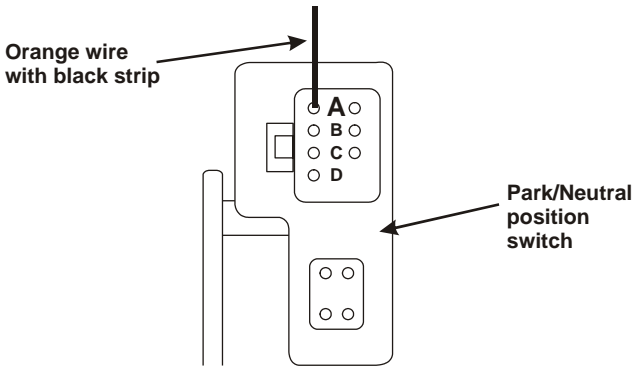

Figure 5
- Solder and seal the long blue wire with no connector from the throttle control to the orange with black stripe wire at pin “A” of the top seven-pin connector on the transmission Park/Neutral position switch (Figure 5). Pull the loom back to access the wire away from the connector.